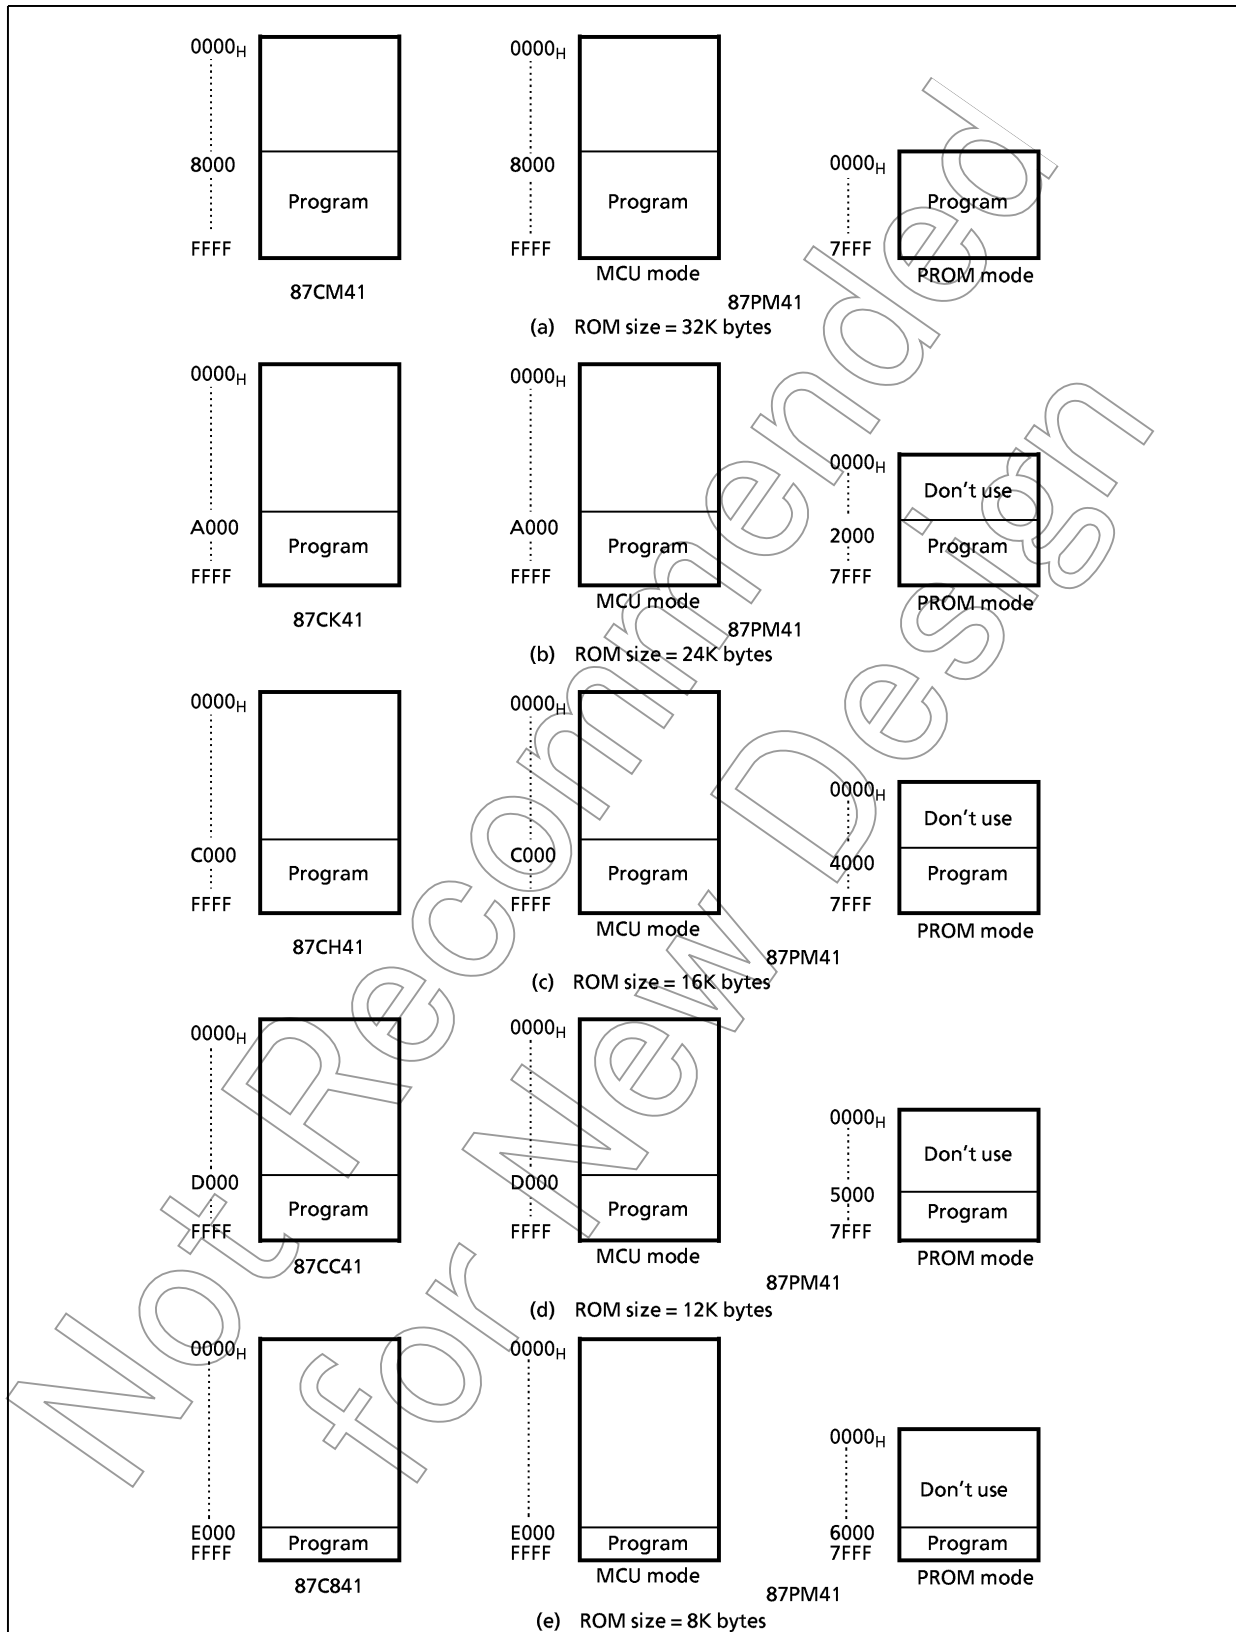

Figure 1-1. Program Memory Area
To use the 87PM41 as the system evaluation for the 87C841/CC41/CH41/CK41/CM41 the program should be written to the program memory area as shown the Figure 1-1.
- (2) Adapter setting
- (3) PROM programmer specifying
- In the TMP87PM41, EPROM is within the addresses 0000_H to 7FFF_H. Data is required to be transferred (copied) to the addresses where it is possible to write. The program area in MCU mode and PROM mode is referred to "Program memory area" in Figure 1-1.
- (4) Writing